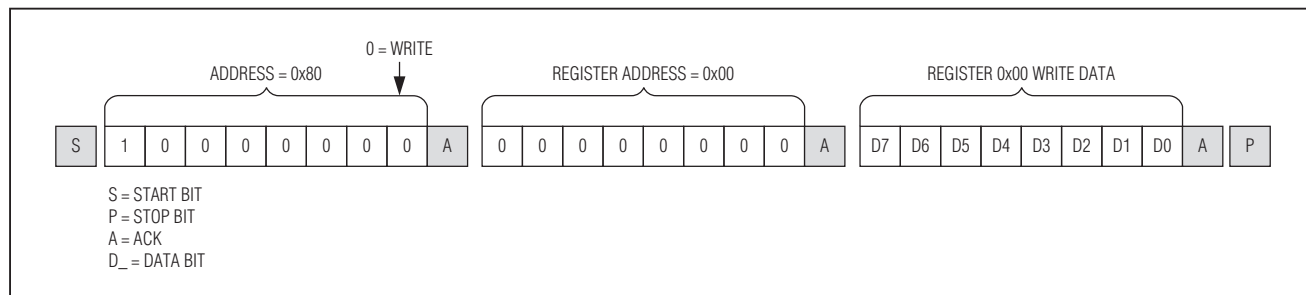
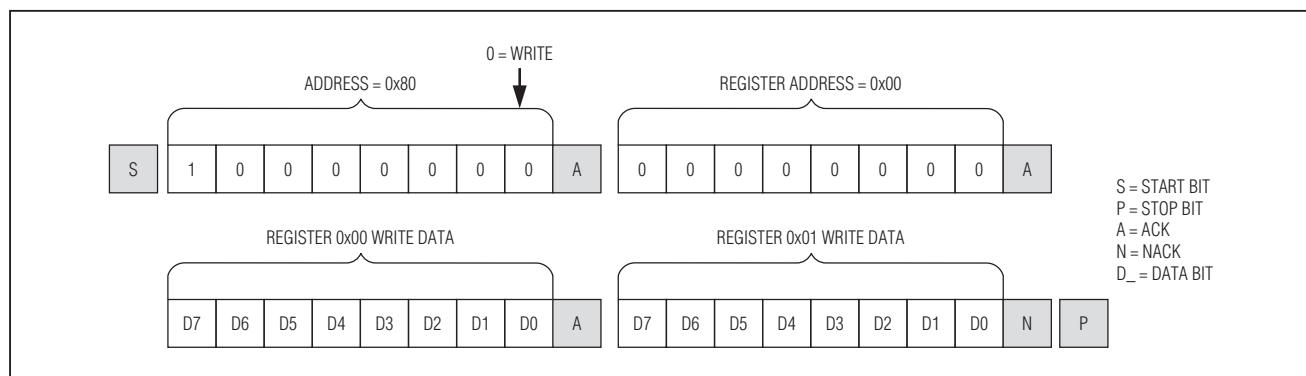

Figure 28. Format for I²C Write
Figure 29. Format for Write to Multiple Registers
followed by at least one byte of information. The first byte of information is the register address or command byte. The register address determines which register of the device is to be written by the next byte, if received. If a STOP (P) condition is detected after the register address is received, the device takes no further action beyond storing the register address (Figure 28). Any bytes received after the register address are data bytes. The first data byte goes into the register selected by the register address, and subsequent data bytes go into subsequent registers (Figure 29). If multiple data bytes are transmitted before a STOP condition, these bytes are stored in subsequent registers because the register addresses autoincrement.